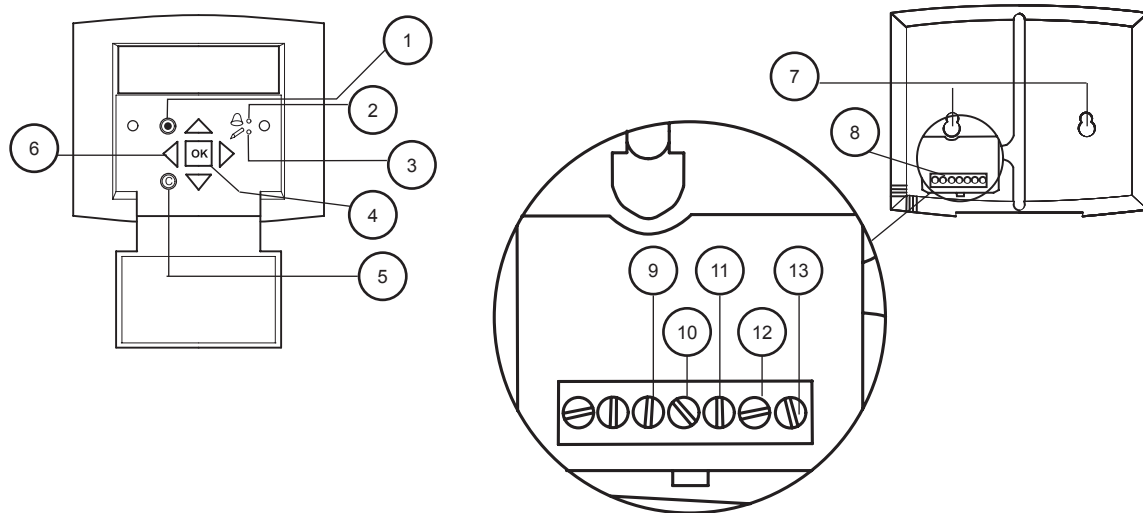

Fig. 4 The control panel
The SCP control panel is delivered with a 32 ft. (10 m) cable that is connected to the panel and with a fast coupling contact, connected to the Topvex unit. The contact is connected to the **Corrigo™** controller in the electrical connection box (pos.1, figure 3). The cable can be unscrewed in the back of the control panel (figure 4).